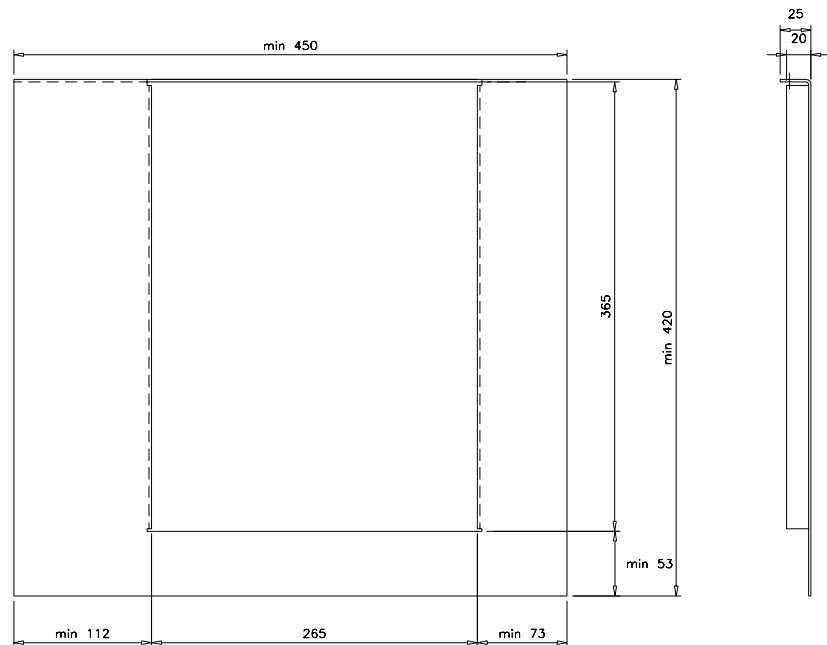

Figure 2-7 Air baffle for Frame B3 supply module.
**Frame B3** Frame B3 supply modules are fixed to the rear wall of the cabinet with four M8 screws. An air baffle must be used to prevent air from circulating inside the cabinet. The baffle should be strong enough to support the weight of the module in order to facilitate the mounting; Figure 2-7 shows a suitable design. The input and output connections (located at the bottom and left side of the module respectively) are made using busbars.